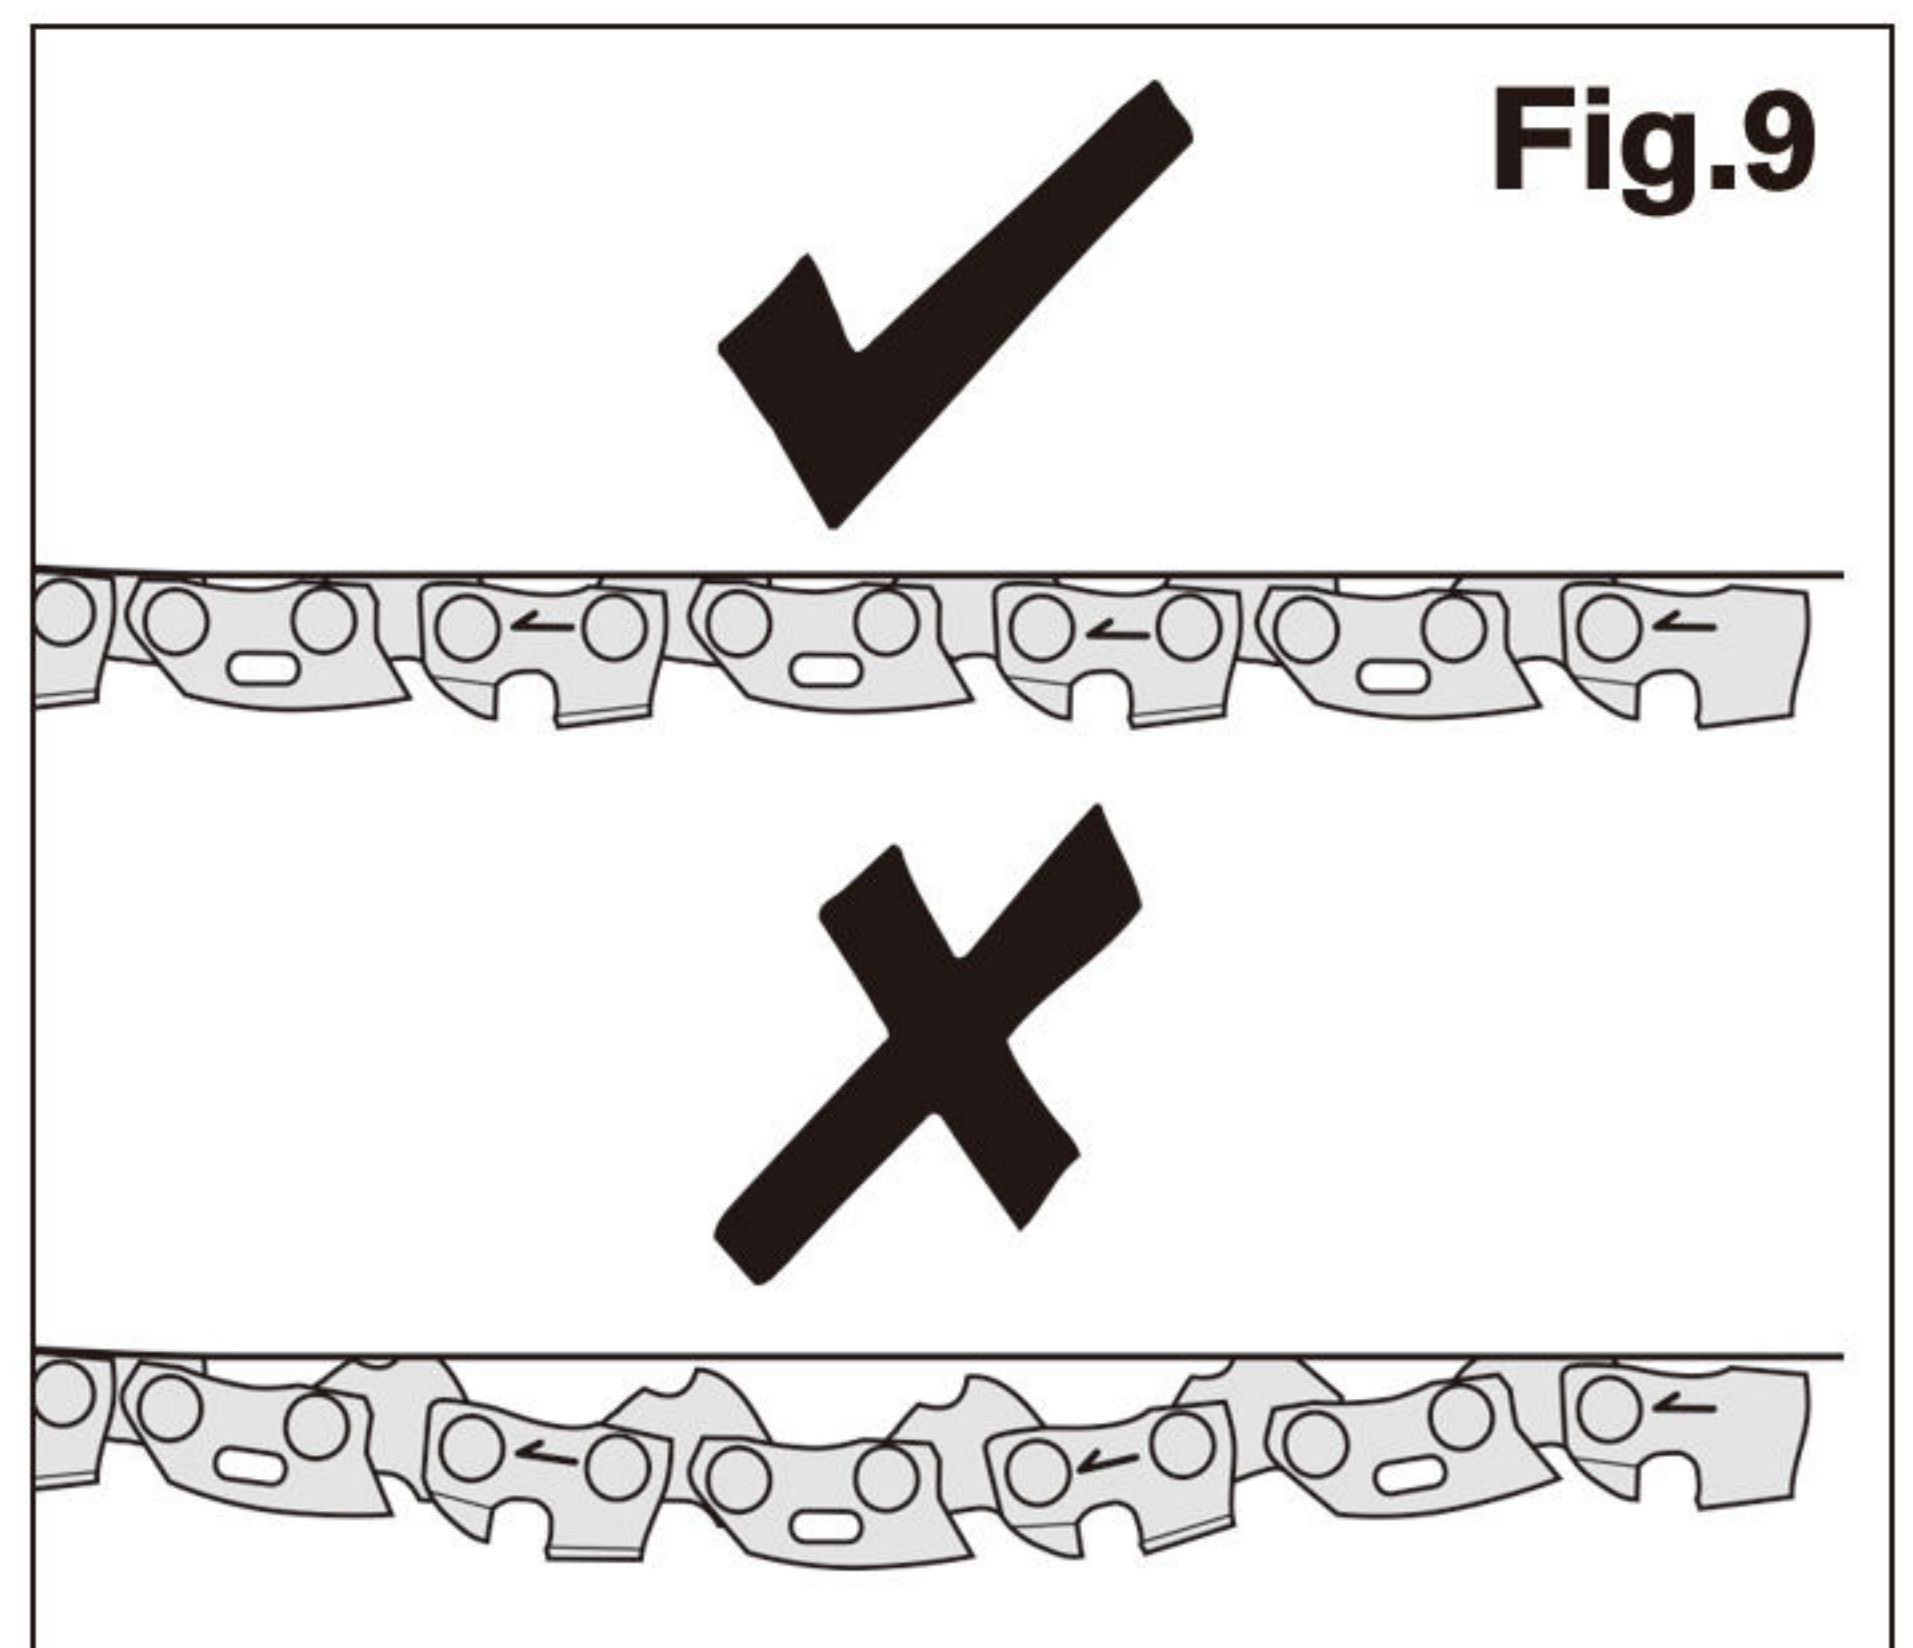

Fig.9
3. To adjust the saw chain tension, rotate the chain tensioning wheel. Rotating the wheel upwards increases the tension while rotating it downwards decreases tension. A properly tensioned chain should have no sag and should only be able to be pulled 1/8 inch (3 mm) away from the guide bar of the saw. (**Fig.9**)